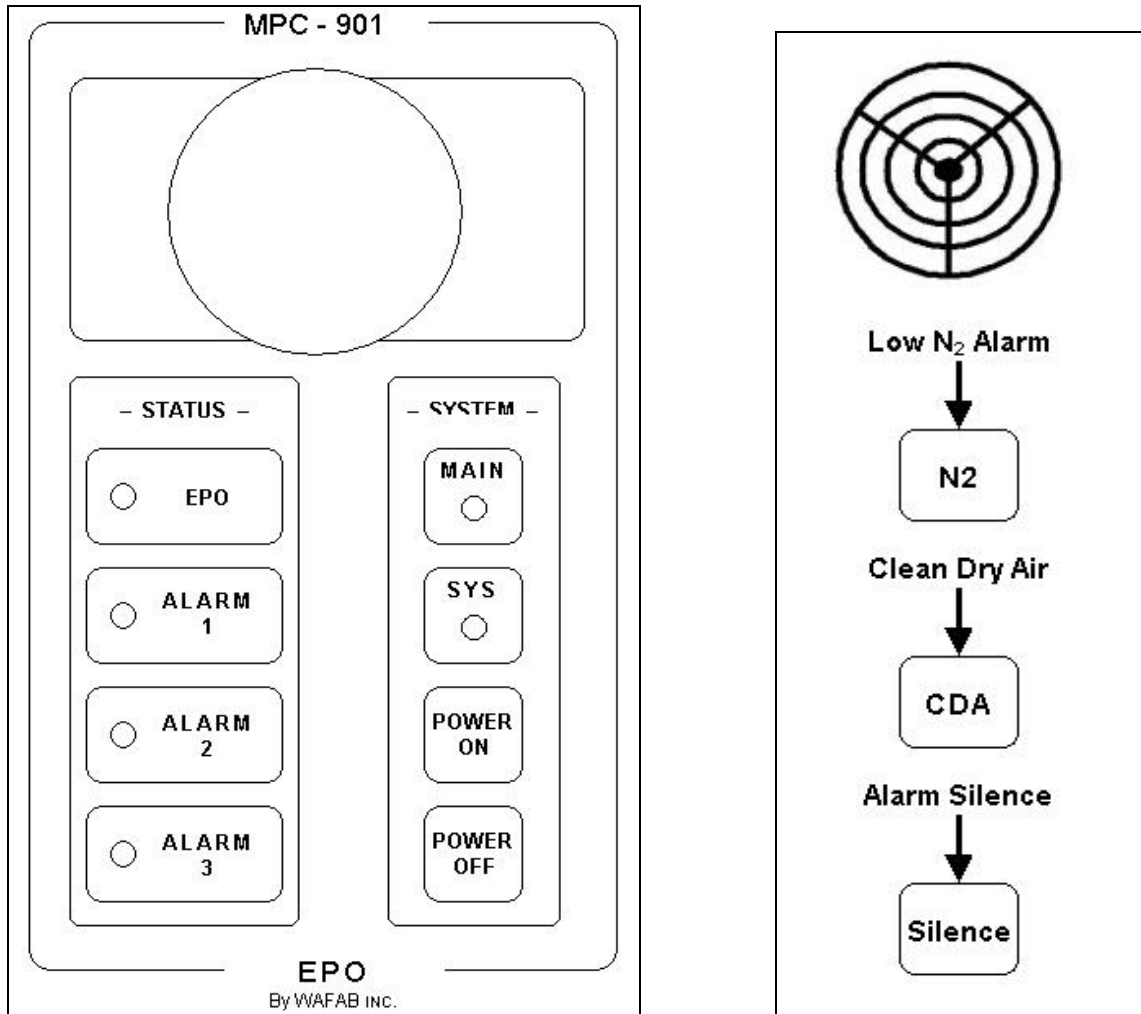
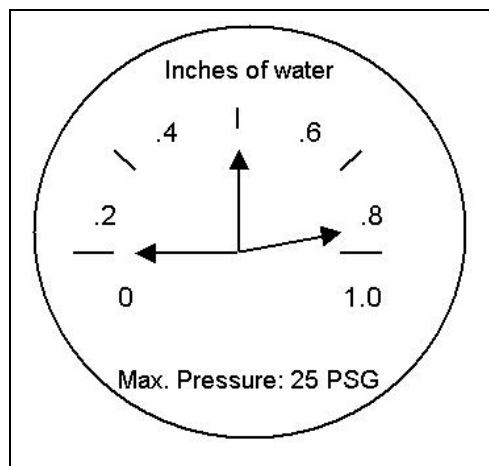

Figure 3 – Main System Power/Alarm Controller
Figure 4 – Photohelic Differential Pressure Gauge
6.4 **Dwyer Photohelic Exhaust Flow Meter** (Figure 4): Monitors the sink exhaust flow and will shut down all electricity and water to the sink if there is too much or too little flow. An alarm will sound; press the red **SILENCE** button (Figure 3) and promptly report on FAULTS.
6.5 **MPC-901 Emergency Alarm** (Figure 3): Cuts power to the sink in emergencies. Push the big red **STOP** button (Figure 3) to cut the power to this sink. Report promptly on FAULTS.
- 9.4.1 Power to System Off (Figure 3): Press power ON if no issues have been reported on the Wand or if the system is not under technician's control.
- 9.4.2 Photohelic Differential Pressure Reading (Figure 4) is outside limits (two red bars): Consult with staff to check house exhaust pressure.